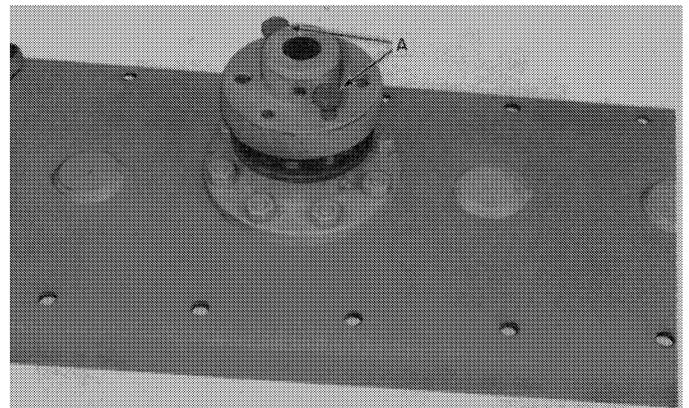

FIGURE 13
2. Remove the disc hub by installing two bolts A, Figure 13, and turning them against housing. **NOTE:** To install hub, it must be heated with a torch to expand it. Make sure holes are lined up with roll pin.